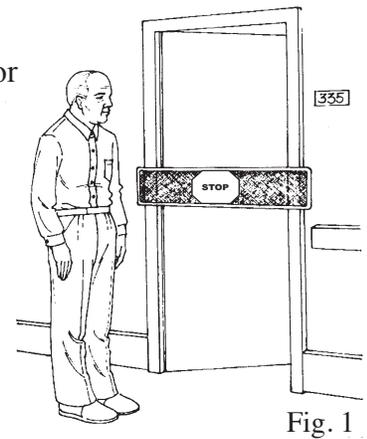

Fig. 1
Peel the backing off the hook and loop pressure-sensitive strips and attach them to the left and right sides of the door frame (909220, 909221). The stop sign only (909226) should be placed on the center of the door. These strips and stop sign should be positioned at mid height on the door frame (Fig. 1). **IMPORTANT:** Attach the pressure sensitive strips to the corridor side of the door frame (Fig. 2).
The magnet version only works on steel door frames. Simply affix the magnet to the door frame at mid height as shown in (Fig. 1). Note this version will not work on wooden or aluminium door frames.
3. Attach the hook and loop material on the stop strip to the strip on the hinged side of the door. Bring stop strip across the door and attach the magnet sewn into the strip on the alarm unit (see Fig. 1).